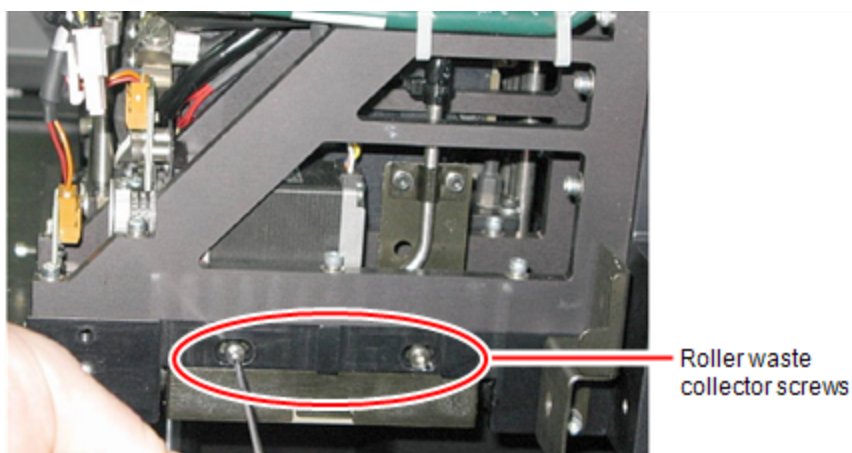

Figure 6-41 Removing the roller waste collector screws
1. Return the roller waste collector to the print block and screw on the covering (see Figure 6-41 on the previous page).